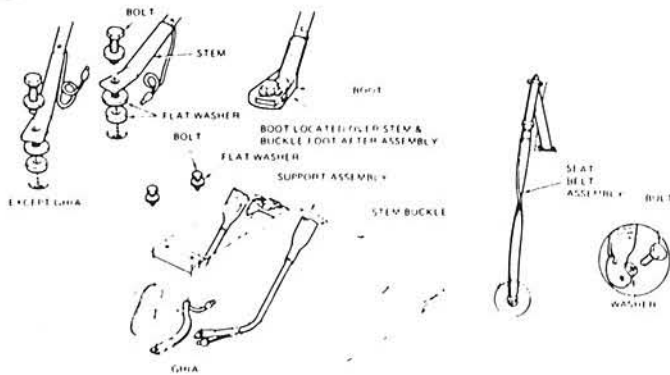

Fig. 11.25 Front seat belt anchorage points (Sec 36)
- 2 Fig. 11.25 shows the floor-mounted front seat belt stalk. Removal of the basic type fixing is straightforward, but for Ghia and later models the centre console must be partly removed, as described in Section 32.